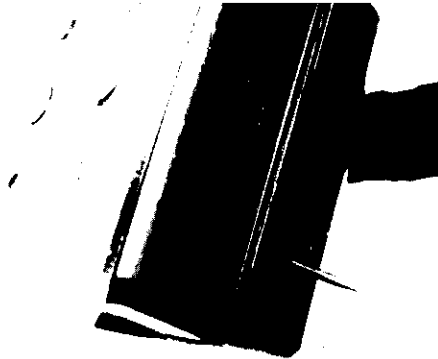

Figure 164: Re-initializing the ID imager
4. Insert a paper clip (or similar) into the small hole on the side of the imager (Figure 164) and press it until you feel it activate the internal button.